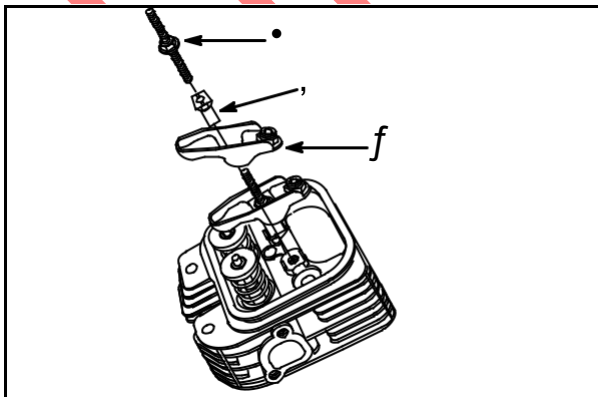

Fig. 21
Assemble rocker studs (1), rocker arm supports and rocker arms (3) to cylinder head, **Fig. 21**. Torque studs to **100 in. lbs. (11 Nm)**.